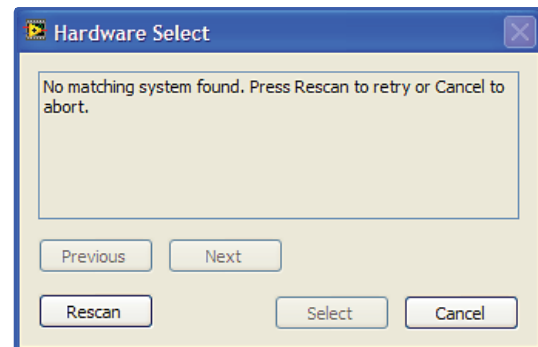

Figure 2. Connectivity Error Alert
2. If the evaluation system is not connected to the USB port when the software is launched, a connectivity error is displayed (see Figure 2). Connect the evaluation board to the USB port of the PC, wait a few seconds, click **Rescan**, and follow the instructions.